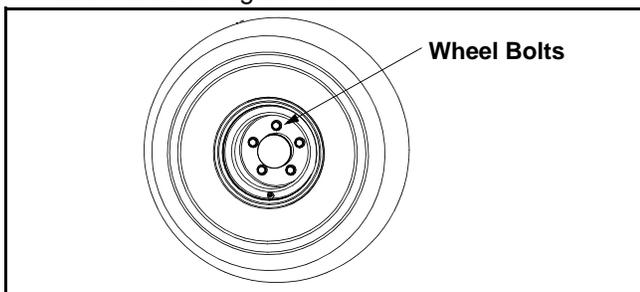

Figure 17
- Loosen but do not remove the five lug nuts from the axle hub. See Figure 17.